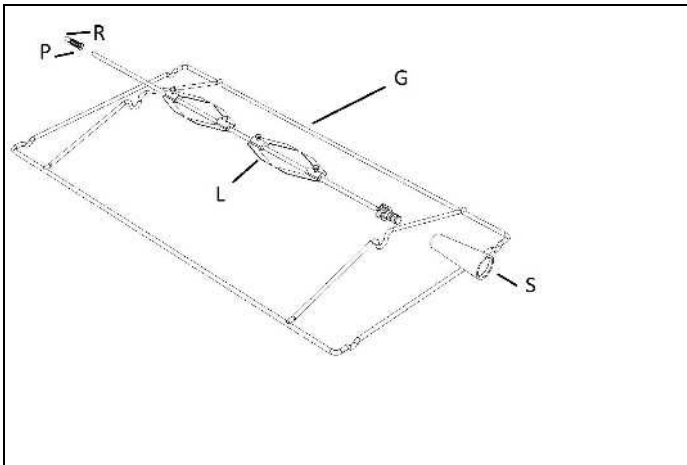

Fig. 23
- **Grilling with rotisserie (if applicable):** This function is used for grilling using the rotisserie spit (Fig. 23 ). Fit the spit support (G) onto the side runners at level 3. Put the food on the spit and place the entire assembly in the oven, engaging the tip of the spit with the shaft which projects on the left side of the oven and resting the ends of the spit in the seat provided in the support. Insert the pan on the runners at a lower level, switch the thermostat to the relative position and press the button with the rotisserie symbol (electric oven version).